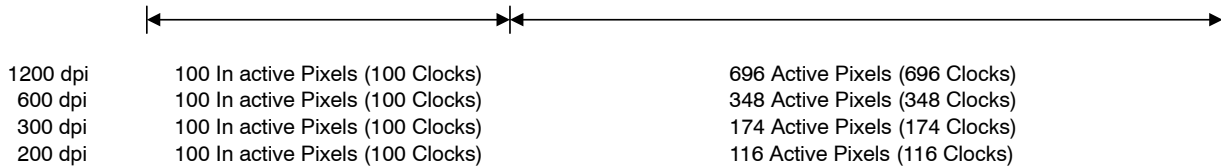
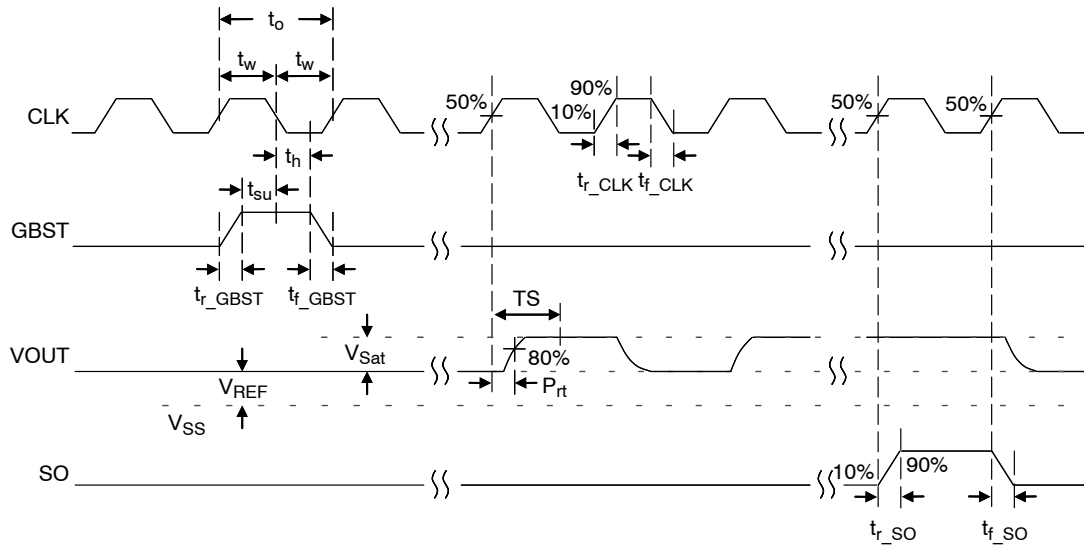
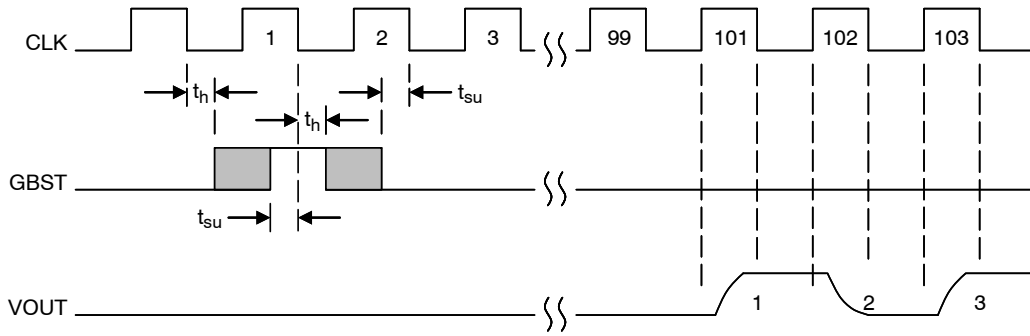

Figure 4. Overall Timing Diagram for 1200/600/300/200 dpi Modes
Figure 5. Rise and Fall Times for 1200/600/300/200 dpi Modes
Figure 6. Timing of GBST-to-First Pixel for 1200/600/300/200 dpi Modes
4. Refer to Figure 4 through Figure 6 for more information on AC characteristics.
7. The shift register loads on the falling edge of CLK, therefore setup and hold times (t_{su} , t_h) are needed to prevent loading of multiple start pulses. This would occur if GBST remains high during two fallings edges of the CLK signal. See Figure 4.
Figure 4 shows the initialization of the sensor for the 1200 dpi, 600 dpi, 300 dpi and 200 dpi modes. The sensor will operate with 100 inactive pixels being clocked out before its first active pixel is clocked out.
Figure 4 and Figure 5 detail the timing of the CLK, GBST, OUT, and SI/SO signals in further detail, they have the same timing requirements for the 1200, 600, 300 and 200 dpi modes. The rise and fall times are listed in Table 5. In Figure 6, note that clock 100 is the first active pixel, as the first 100 clocks produce dummy pixels (the output of the first 100 clocks should not be used for any purpose such as black level clamping).